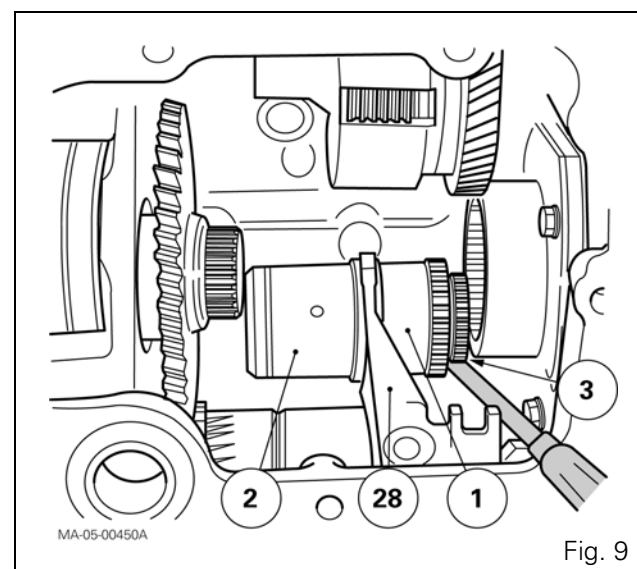

Fig. 9
13. Provisionally fit the set screw (8) in order to hold the selector rail in place to remove the fork (28).
14. Slide the sleeve (2) and the coupler (1) closer together on the connecting shaft (3) (Fig. 9).
15. Note and mark the assembly order of the sleeve (2) (Fig. 9).
Take it out of the fork (28) (Fig. 9) and remove it through the opening in the right-hand cover plate.